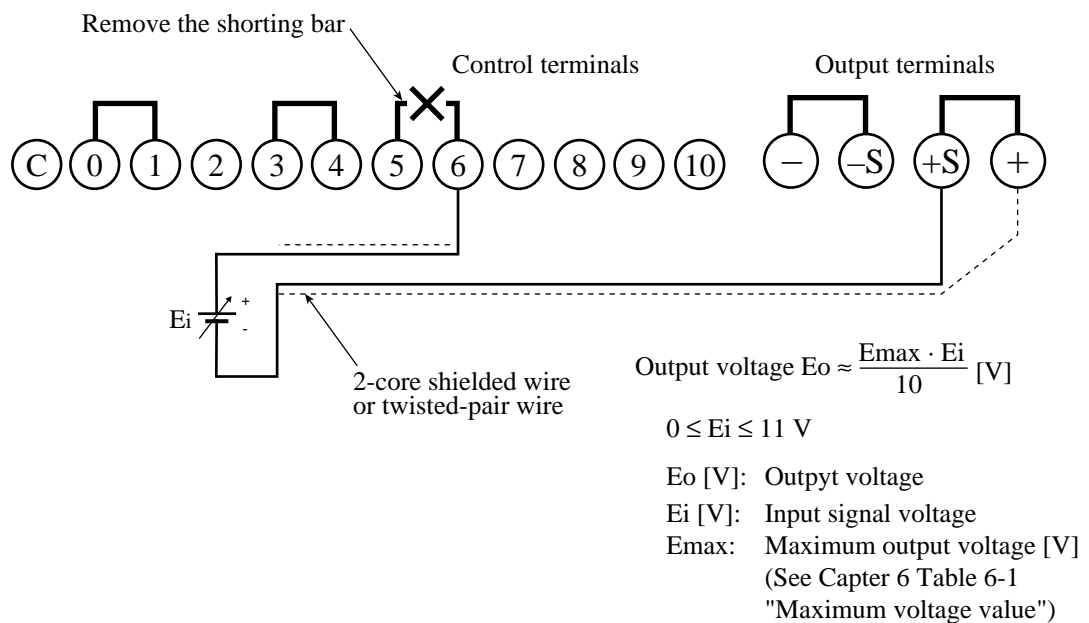

Fig. 4-6 Connections for output voltage control with external voltage
2. As shown in Fig. 4-6, remove the shorting bar across the control terminals 5 and 6.
3. Connect an external source (Ei) across the control terminal 6 and +S terminal as shown in Fig. 4-6.